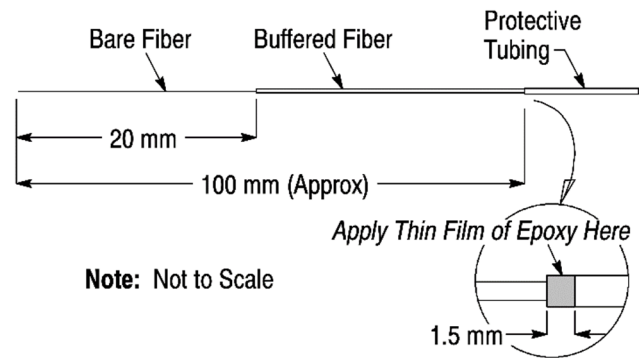

Figure 3
- g. Using the fiber stripping tool, strip the buffered fiber to the dimension shown in Figure 3, exposing the bare fiber. Using a lint-free tissue or cloth dampened with isopropyl alcohol or acetone, clean the bare fiber.
j. Apply a *thin film* of epoxy around the outside edge of the protective tubing to the width given in Figure 3.